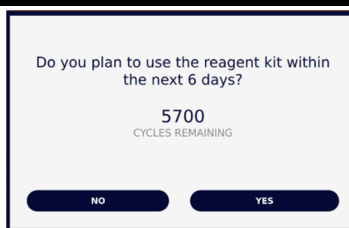

Figure 5. Prompt to Use Remaining Reagents for Subsequent Run
- If the remaining reagents are sufficient and have been in the reagent rack for <7 days, a prompt appears asking if you plan to use the loaded reagents for a subsequent run (Figure 5):